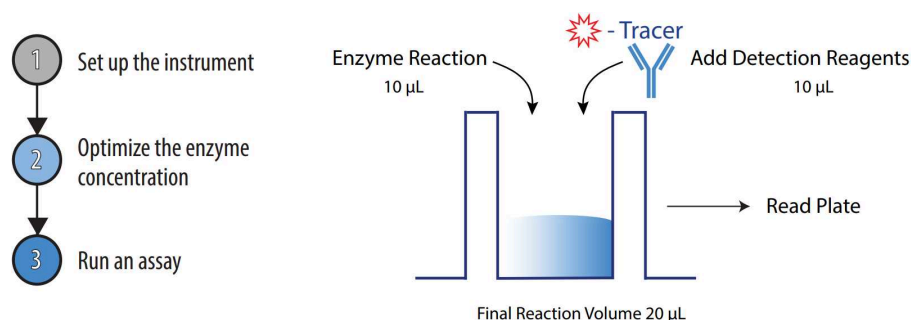

Figure 2. An outline of the procedure. The procedure consists of 3 main steps with a mix-and-read assay format.
- The Transcreener dAMP FP Assay protocol consists of 3 steps (**Figure 2**). The protocol was developed for a 384-well format, using a 10 µL enzyme reaction and 20 µL complete assay volume when the plates are read. The use of different densities or reaction volumes will require changes in reagent quantities (see **Section 7.3** for example reaction volumes). Once the instrument parameters and enzyme optimization are complete, the